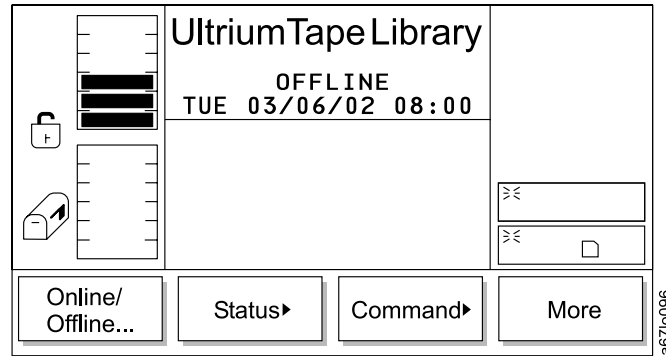

Figure 80. Completed Verification Dialog
- If **OK** is selected, the Completed Verification Dialog displays (see Figure 80 on page 91 ) and the library goes offline.